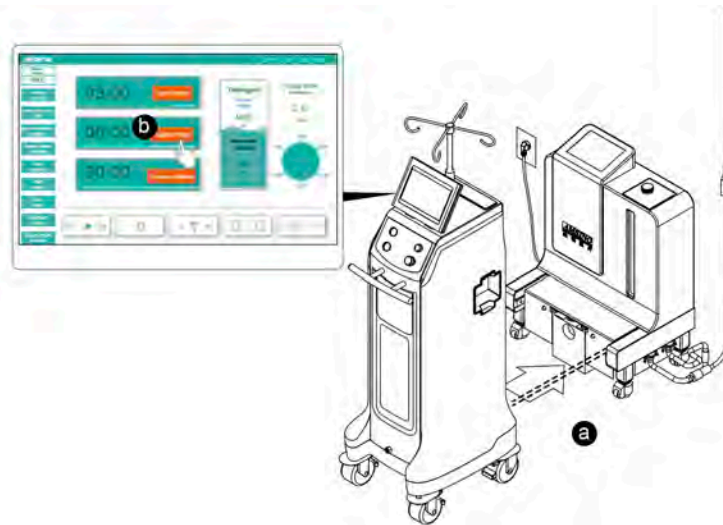

Figure 38 To Perform a Wash Cycle
- Push the rover toward the docker and between the guides until the rover and docker attach automatically (Figure 38).